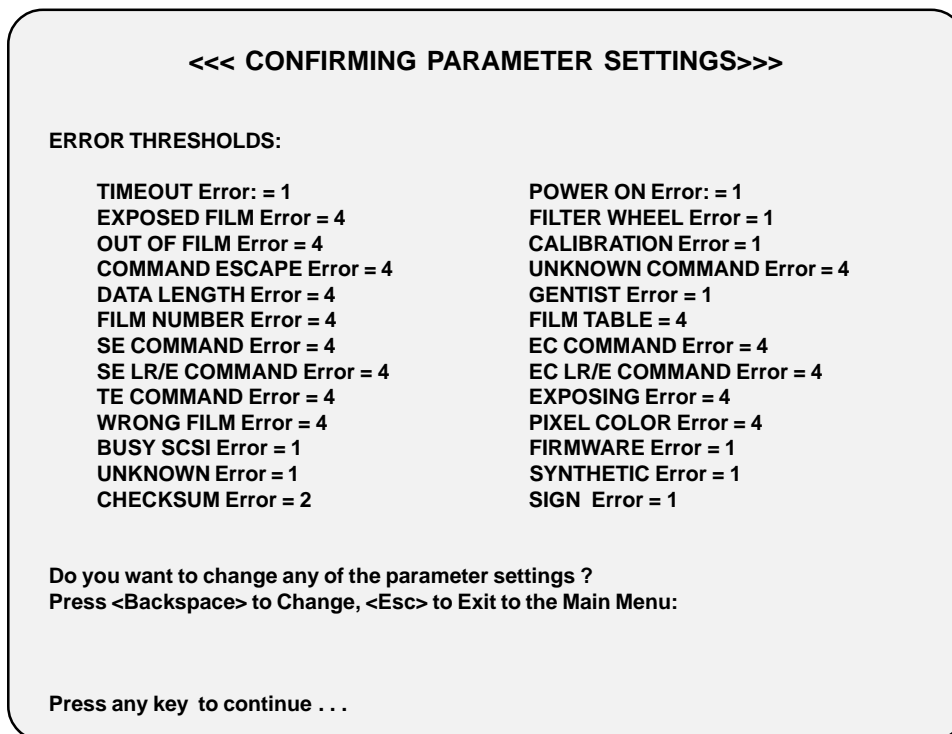

Figure 14. Confirming parameter settings (thresholds)
6. Once parameters are set, press any key to continue. The **Error Thresholds** screen appears (Figure 14).